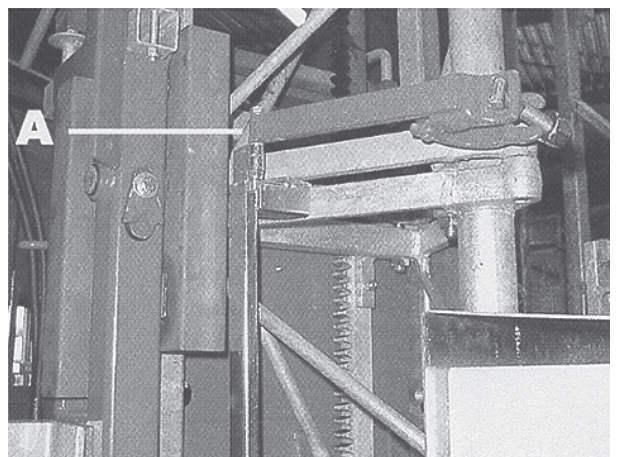

Fig.6-05 2.5 meter stop
6. Extend the 2.5 m (98 inch) stop rail completely (fig.6.05,A). The rail is mounted in the lower section of the left mast.